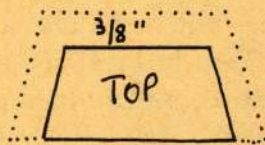

FIG. 3B
To make the pattern for the top of the bookend foot, once again trace the foot on a piece of cardboard, then add 3/8" around the three sides indicated in Fig. 3B. This added 3/8" of leather will be skived, which allows you to completely cover the metal foot, as well as the edges. Cut two (2) from your leather.